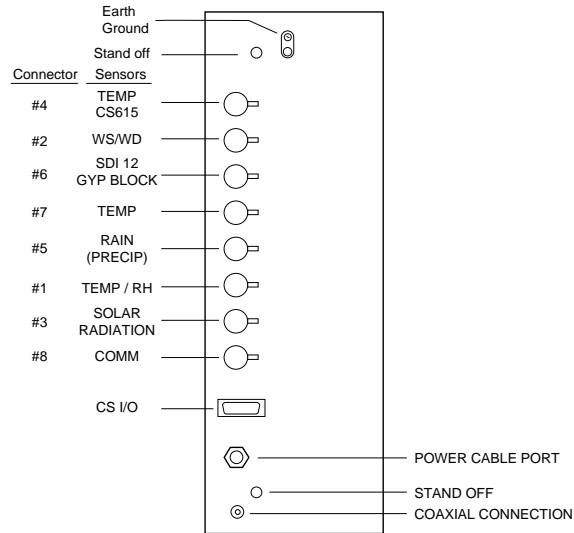

FIGURE 3.2-1. Position of Sensor Bulkhead Connectors
- 2) Remove the protective connector cover from the back of the T.Weather 106 Enclosure by removing the two Phillips head screws. Sensors connect to one of seven labeled bulkhead connectors as shown in Figure 3.2-1.